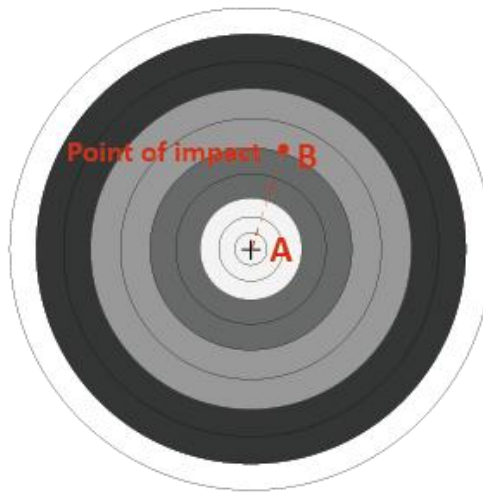

Fig. 16
- (4) **Shoot:** Fire a shot at the center of the target (A) and ensure that the point of impact(B) is clearly visible on the screen as shown in **Fig. 16**.